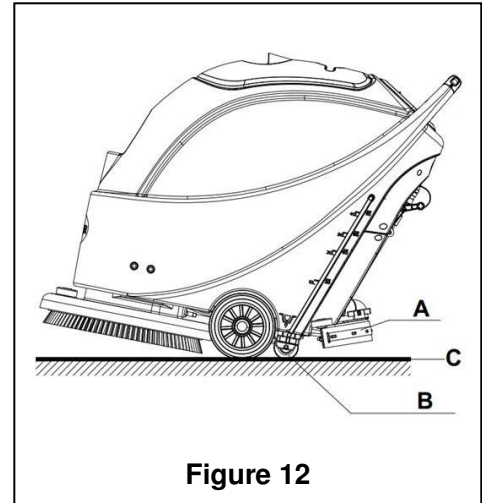

Figure 12
8. Release the safety switch (1) to turn off the brush/pad-holder and solenoid valve.
9. Press the Vacuum switch (42) to the “**Off**” position, and the Vacuum will delay for 5 seconds before stopping work.
10. Press the solution control switch (44) to the “**Off**” position to completely turn off the solution flow.
11. Press the power switch (41) to the “**Off**” position.
12. Use the squeegee lift handle (14) to lift the squeegee.
13. Grasp the handle (2) and gently tilt the machine backward until the guide wheel (B) touches the floor. See Figure 12.